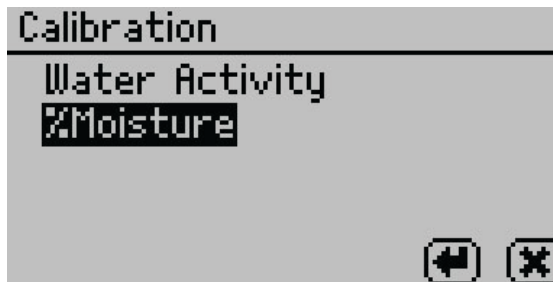

Figure 27 Calibration screen listing calibration types
3. Select %Moisture from the list of calibration types (Figure 27).